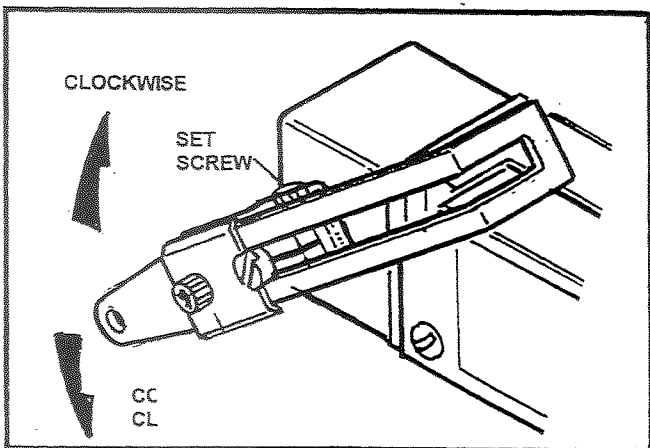

FIGURE 39
3. See figure 39 and loosen set screw on actuator arm. Reposition this arm by either rotating it clockwise or counterclockwise depending where the micro switch clicked "off" during the conveyor flaps upper travel.
4. When the click 'off' occurs between the 6 ½" to 7" limit, tighten set screw and connect linkage. (See figure 39).